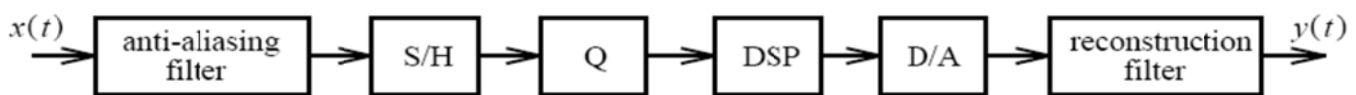

Figure 1: A block diagram of a practical DSP system.
Figure 1 shows a block diagram of a typical digital signal processing (DSP) system. On the Nexys 2 the ADC has a low pass filter with nominal cut-off frequency of around 500 kHz, however additional 10 kHz lowpass filters can be inserted at input and output. The Nexys 2 codec is implemented as separate analogue to digital (A2D) and digital to analogue (D2A) converters, these being represented by the sample and hold (S/H) plus quantiser (Q) and D/A blocks in Figure 1 respectively. Finally, the DSP block in Figure 1 is where the difference equation for implementing the desired digital filter is performed.
3. If the DSP block in Figure 1 is assumed to have a sampling frequency of 25 kHz and performs the following difference equation: $y[n] = x[n]$, (that is, the output of the A2D is copied directly to the input of the D2A) what is the frequency and approximate amplitude of the signal, $y(t)$, observed at the **output** of the reconstruction filter, when: